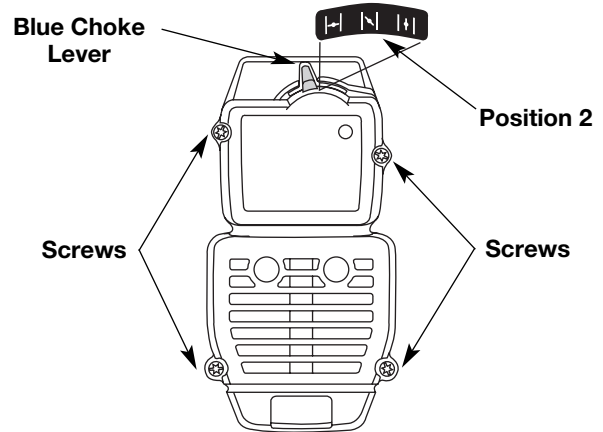

Fig. 32
NOTE: The choke lever must be in Position 2 (Fig. 32) to remove the air filter/ muffler cover.
2. Remove the four (4) screws securing the air filter/muffler cover (Fig. 32). Use a flat blade or T20 Torx bit screwdriver.
2. Insert the four (4) screws into the holes in the air filter/muffler cover (Fig. 32) and tighten. **Do not over tighten.**